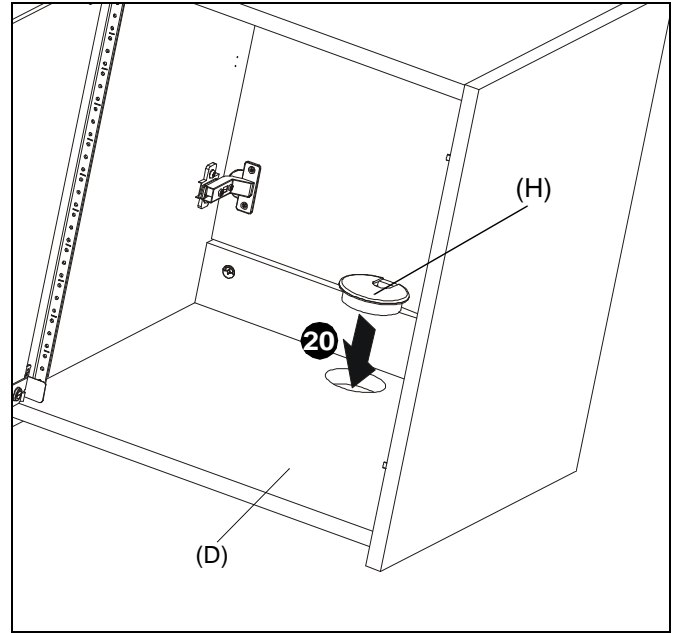

Figure 11
20. Install round grommet (H) into hole on rack bottom (D). (See Figure 11)